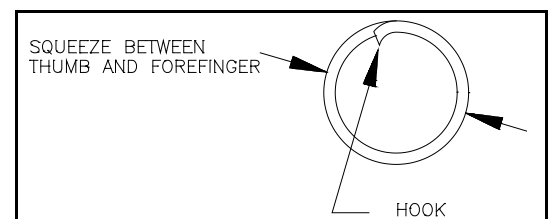

Figure 3.
- 4.1 Examine each end of the new pop-out spring carefully. One end has about five closely spaced coils while the other has about six. The end with five coils also has a tiny hook at the end of the wire. See Figure 3. When properly installed, this hook locks the spring onto the collet.
- 4.2 Hold the five closely spaced coils (with the hook) and start threading the coil onto the special collet. When the hook reaches a slot it will tend to get caught. Squeeze the coils just behind the hook. See Figure 3. Ease the hook past each slot.